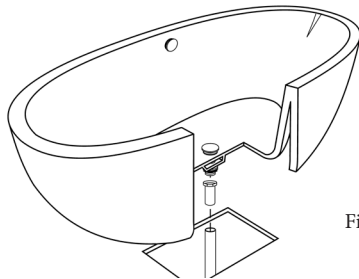

Figure 7
15. **Carefully** set tub into position (Figure 7) and connect the drain hardware (previously installed).